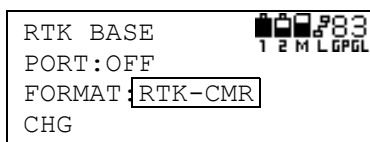

Figure 3-62. Select Format Type
3. Press the **up/down cursor key** to select FORMAT. Press **F1** (CHG) to change the format setting, either RTK-CMR, RTK-CMR+, or RTK-RTCM (Figure 3-62). See “Selecting Parameters” on page 3-10 for details on this procedure.